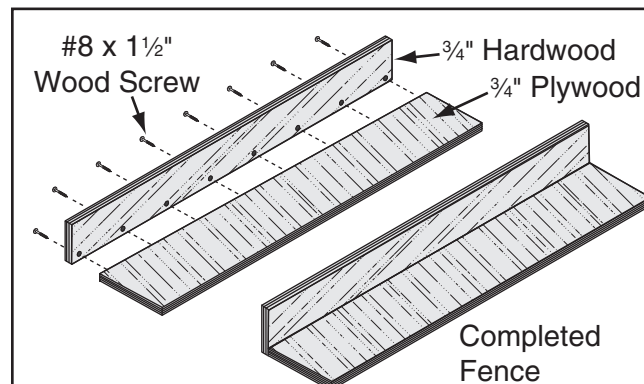

Figure 99. Location of pilot holes.
2. Pre-drill and countersink eight pilot holes $\frac{3}{8}$ " in from the edge of the $5\frac{1}{4}$ " wide board, then secure the boards together with eight #6 x $1\frac{1}{2}$ " wood screws, as shown in **Figure 99**.